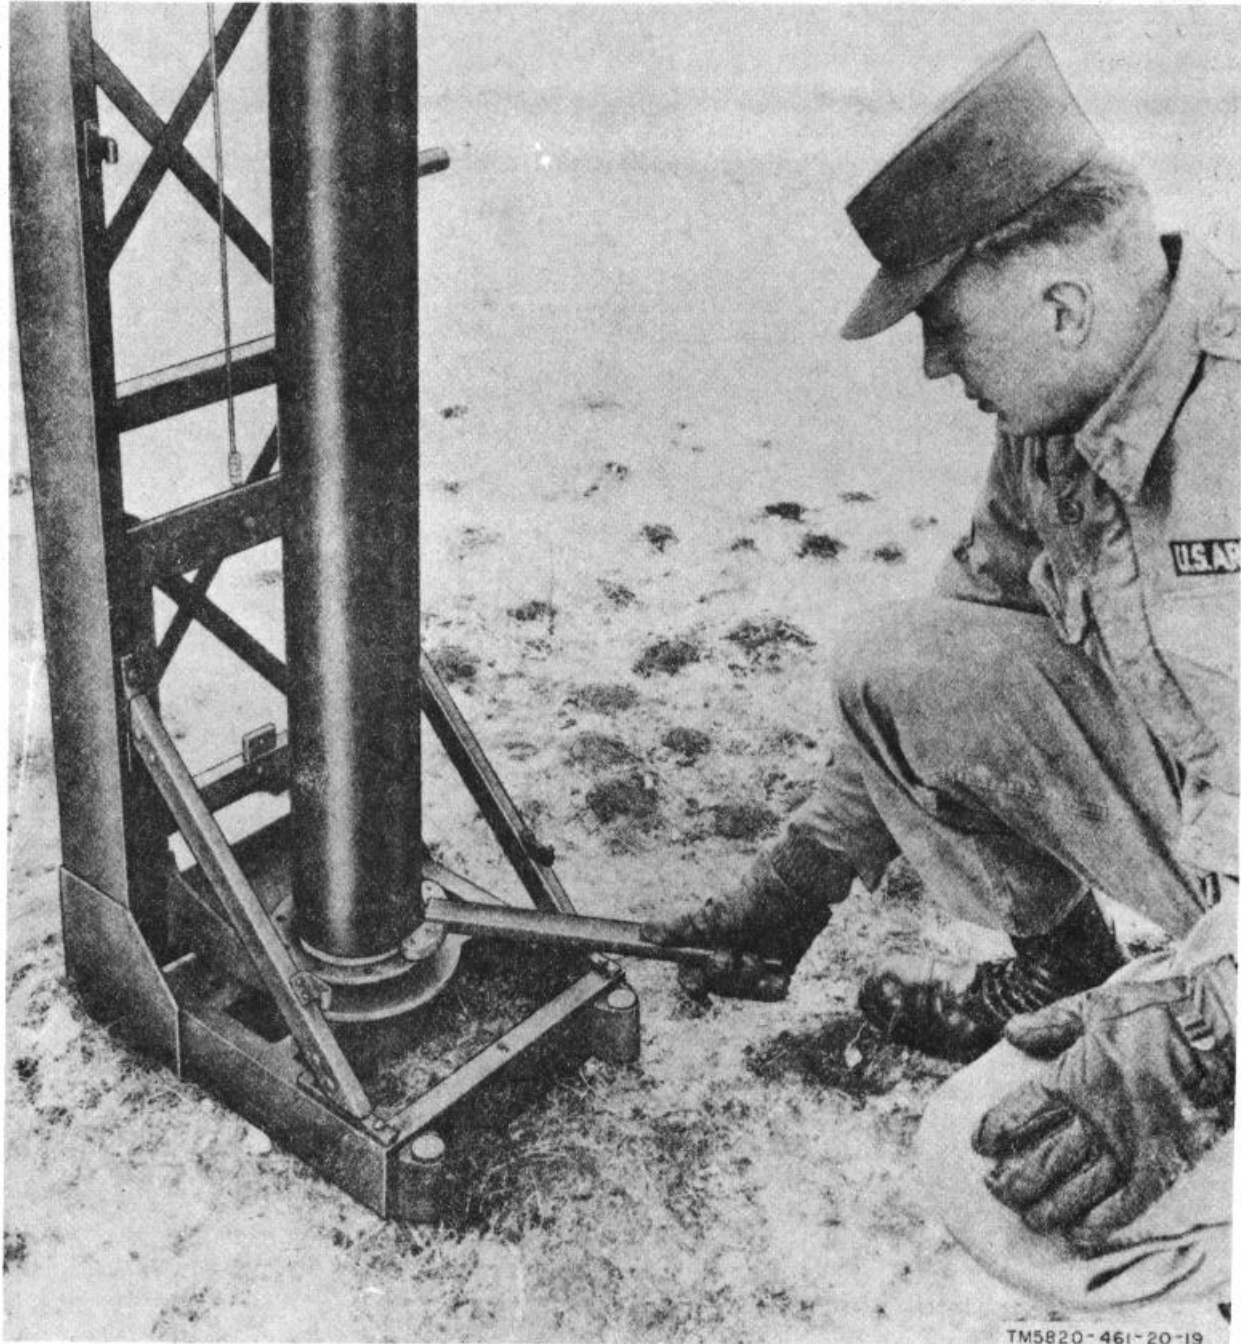

Figure 2-20. Rotating mast (mast section carrier removed for clarity).
(fig. 2-20)
- b. Set the spanner wrench into the holes in the mast base bearing (fig. 2-20).